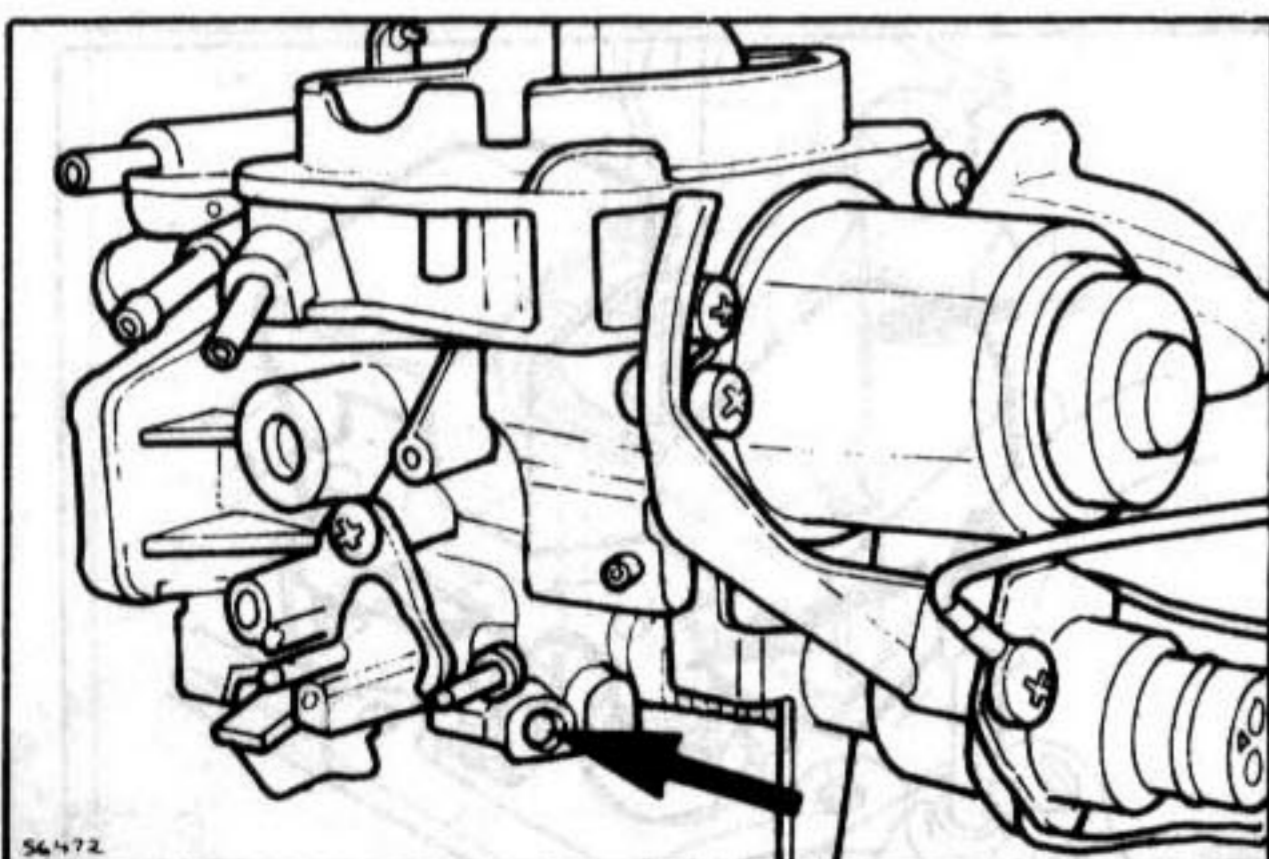

Fig. 1 Idle mixture adjustment
- b) If outside specified limit adjust with mixture screw (Fig. 1).